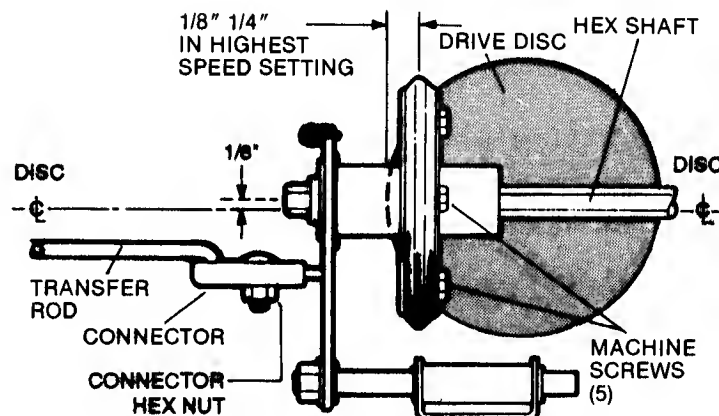

FIGURE 2.12
- (c) The **CENTER** of the rubber ring should be 1/8" to 1/4" from the **left EDGE** of drive disc as shown. See Figure 2.12.
2. Check the "**TRACKING POINT**". The rubber ring should contact the drive disc's surface at a point 1/8" **in front of** an imaginary reference centerline crossing through the center of the drive disc. You may wish to draw the centerline with a pencil. See Figure 2.12.